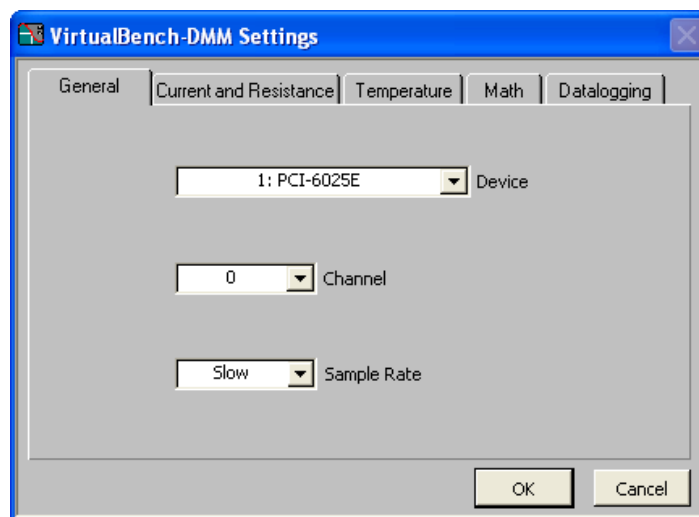

Figure 2. The DMM General Settings Window
- Click on the desktop icon for the VirtualBench. Then look for the VirtualBench DMM (Digital Multi-Meter) in the options window that opens. Click on this and when the DMM opens click on *Edit, Settings, General* Tab. Set the Channel to 0 and the Sample Rate to Slow. See Figure 2.